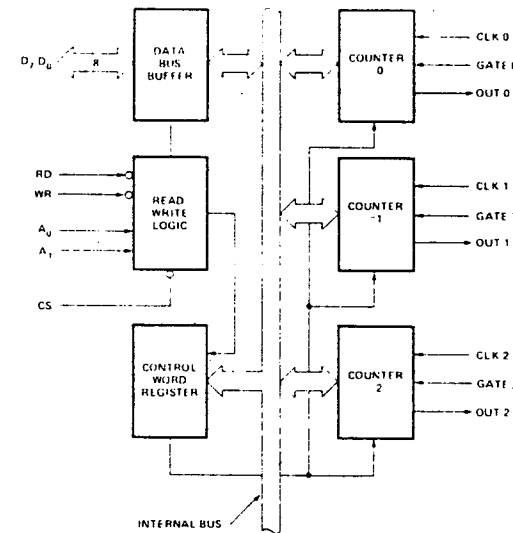

Figure 1. Block Diagram
- AC timings measured $V_{OH} = 2.0$, $V_{OL} = 0.8$, and with load circuit of Figure 1.
- Chip Select (CS) and Command/Data (C/D) are considered as Addresses.